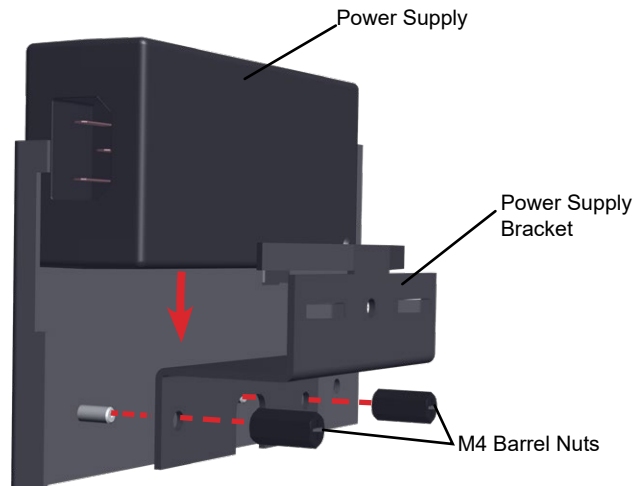

Figure 3. Reinstall bracket and power supply on long rack ear
3. Attach the power supply bracket to the longer (R) rack ear with barrel nuts and insert the power supply with power cord outlet located to the back (Figure 3).